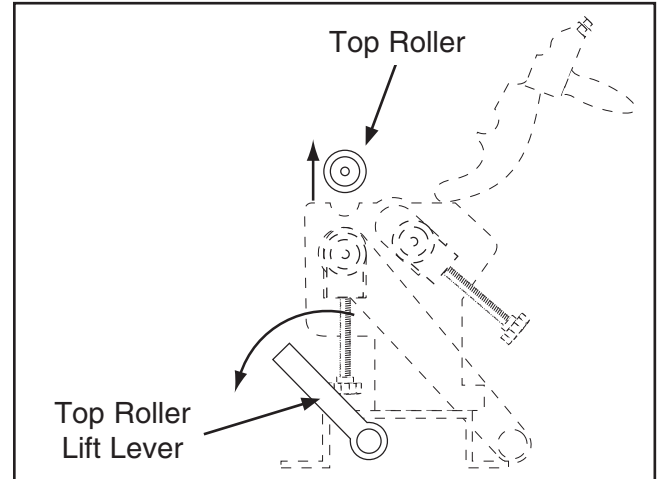

Figure 30. Releasing top roller.
3. Move the top roller lift lever, as shown in **Figure 30**, to raise the top roller. Remove the workpiece.